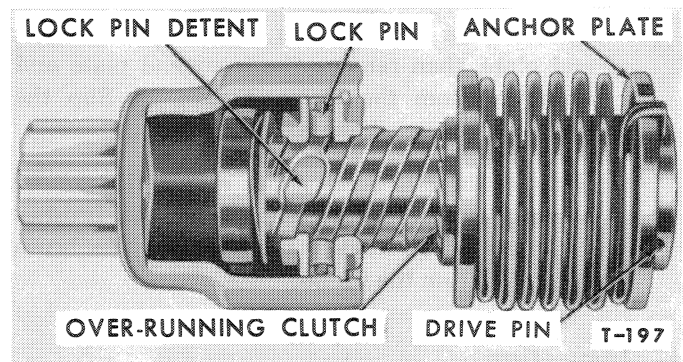

Figure 21—Starting Motor Drive
1. Compress the anchor plate, then remove the drive pin from the starter drive, Figure 21.
4. Inspect the starting motor drive, see Figure 21, for burrs, broken or worn teeth. Check the action
5. Slip the starting motor drive on the armature shaft compress the anchor plate, Figure 21, then install the drive pin through the drive and armature shaft.